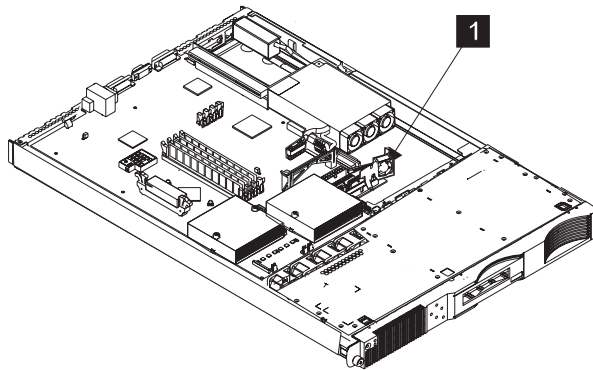

Figure 98. Removing a disk drive fan
4. Refer to Figure 98.
6. See Figure 98. Remove the entire fan assembly **1** by sliding the right-hand side of the disk drive fan forward. Then, pull the assembly away from the clip.